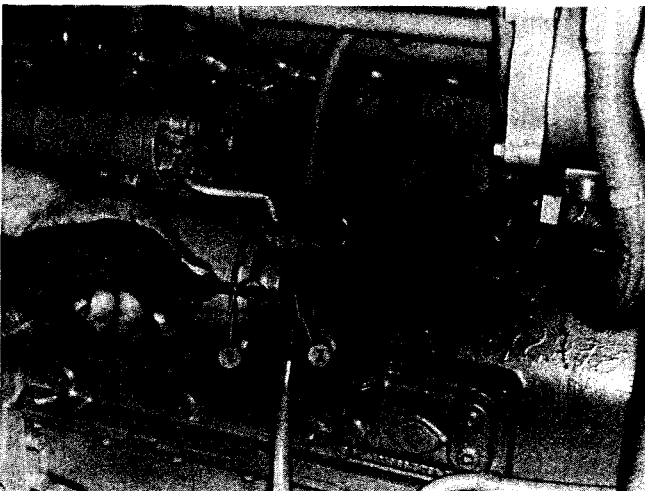

Fig. 1-8, (N12004). Checking engine oil level
A dipstick oil gauge is located on the side of the engine. Fig. 1-8. The dipstick has an "H" (high) (1) and "L" (low) (2) level mark to indicate lubricating oil supply. The dipstick must be kept with the oil pan, or engine, with which it was originally supplied. Cummins oil pans differ in capacity with different type installations and oil pan part numbers.